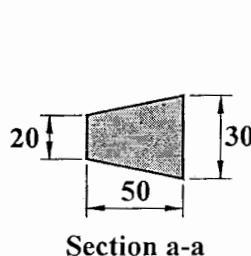

Fig. 3
5. For the beam, loaded as shown in Fig. 3, determine the maximum tensile stress in section a-a. Consider $P = 10 \text{ kN}$. All dimensions shown in Fig. 3 are in mm. (5)